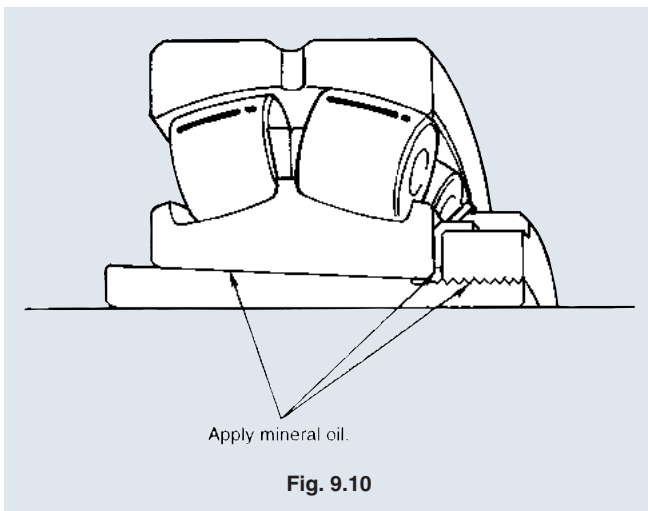

Fig. 9.10
(1) Thinly apply highly viscous mineral oil to the taper, threading and the chamfered face of the nut (see **Fig. 9.10**) before press-fitting. In particular, apply molybdenum bisulfide paste to these areas on a large bearing. This prevents scuffing, and allows easy bearing removal. Before the installation work, remove oil from the shaft and the bore face of sleeve with a clean factory cloth.